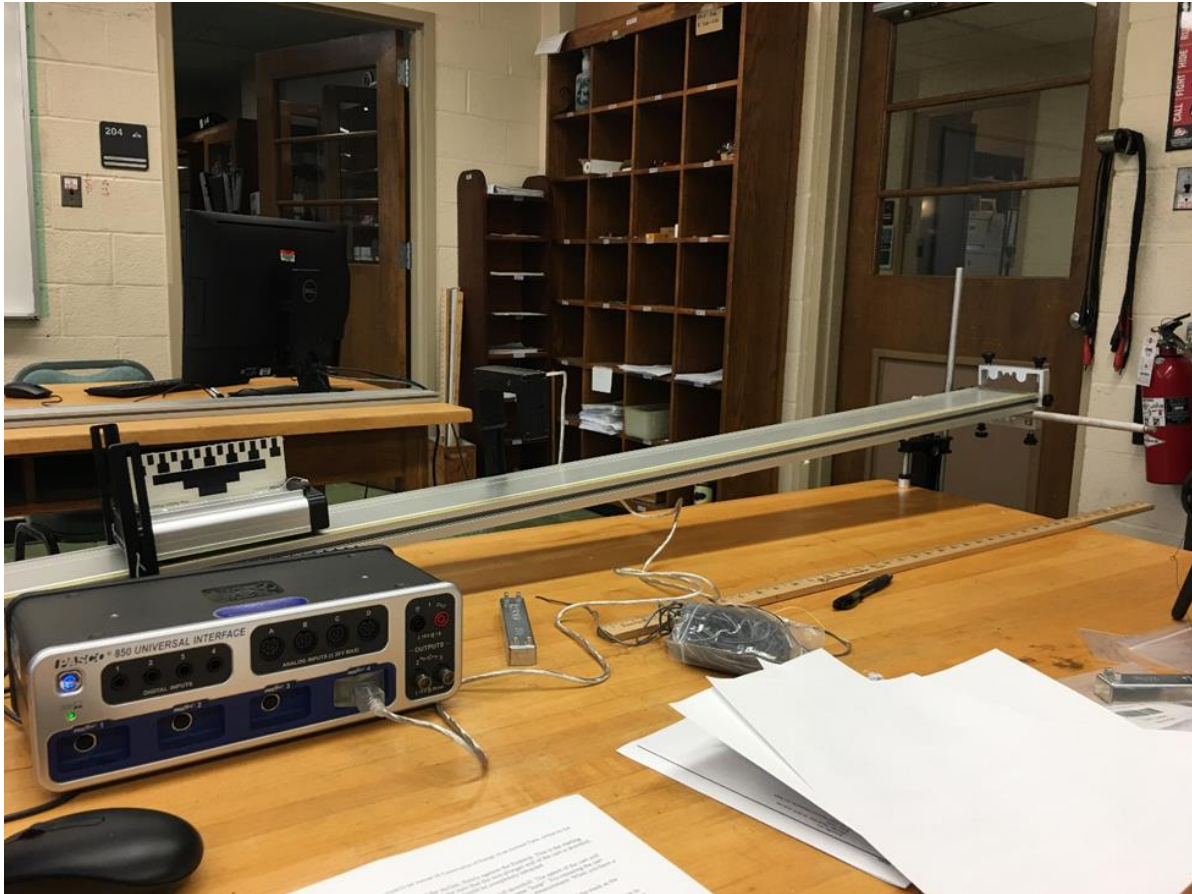

Figure 1: The cart rolls freely down the incline.
1. Set up the track as shown in Figure 1. Use one of the Endstops to keep the track from sliding on the support rod.